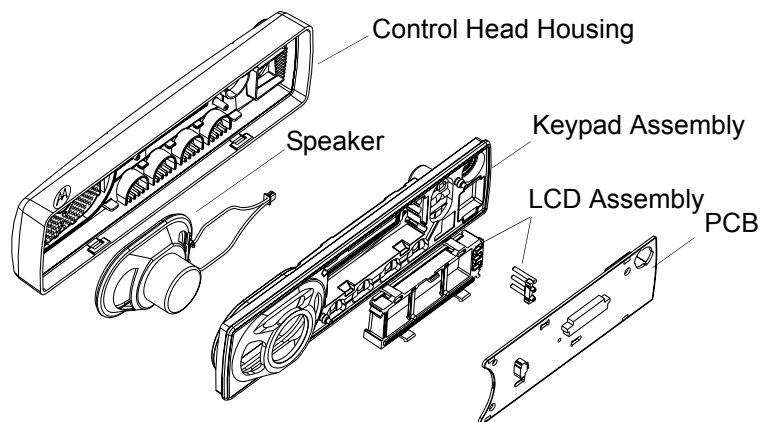

Figure 2-12 Control Head Housing Removal CM300/PM400
1. Disconnect the flat cable from the Control Head PCB connector. See Figure 2-12.